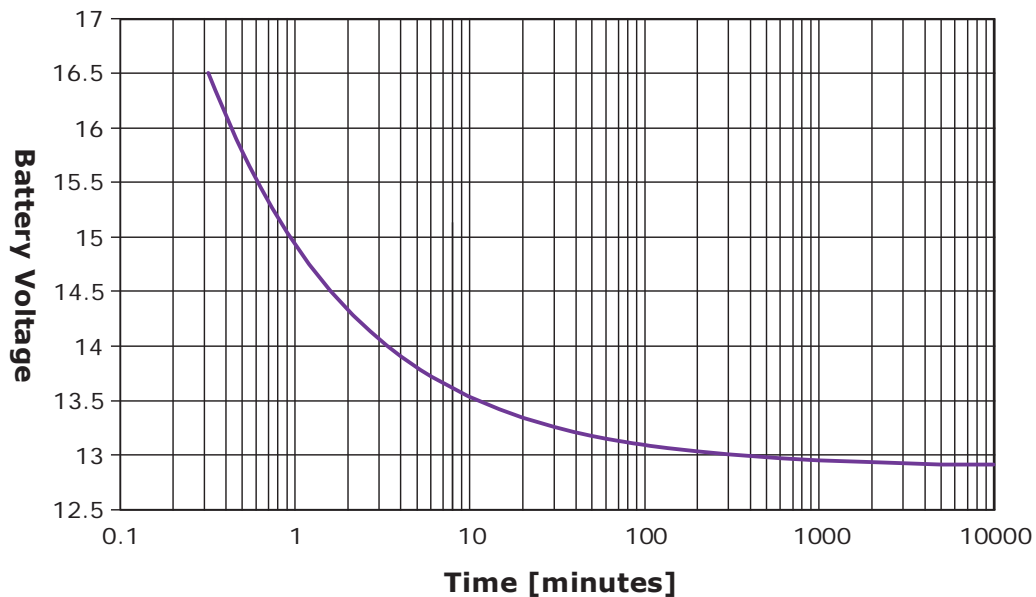

Figure 3-1, Ending Battery Voltage Verses Time
1. The charging voltage stabilizes over time (see Figure 3-1).